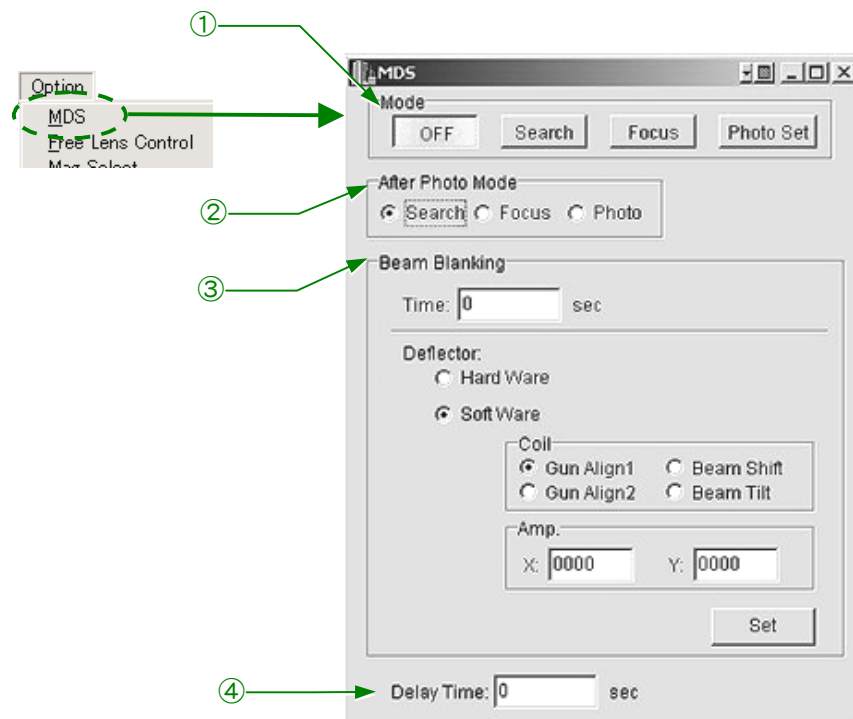

Fig. 5.57 MDS window
1. Select **Option** from the **TEM Controller** menu bar and click on **MDS** to open the **MDS** window (☞ Fig. 5.57).
- a. Click on the After Photo Mode Search radio button (☞ Fig. 5.57, ②); then enter the necessary information in the Beam Blanking Time, Beam Blanking conditions (☞ Fig. 5.57, ③) and Delay Time input boxes (☞ Fig. 5.57, ④).
- b.** Select **Photo Set** ( Fig. 5.57, ①) from the **MDS** window.
- 3.** Select **Search** ( Fig. 5.57, ①) from the **MDS** window.
- 5.** Select **Focus** ( Fig. 5.57, ①) from the **MDS** window.
- b.** Click on **OFF** ( Fig. 5.57, ①) in the **MDS** window to switch the mode from MDS to normal, if you want.